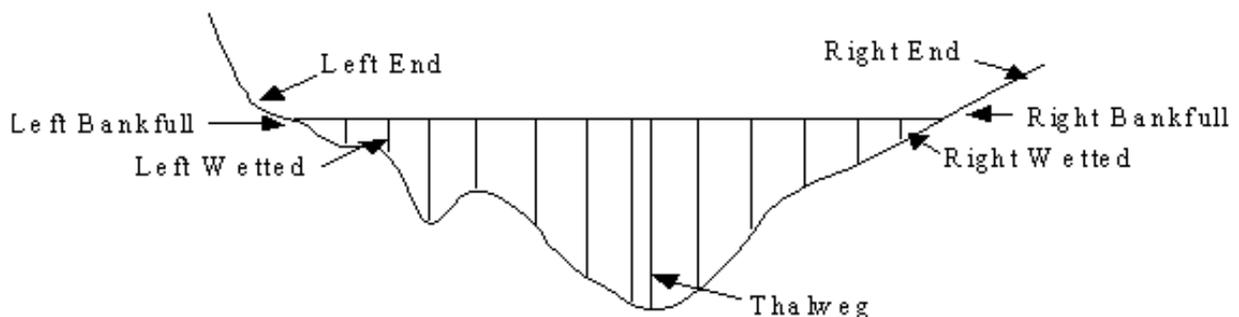

Figure 2. Example cross-sectional profile with point labeling and measurement increments.
5. In addition to the 11 incremental measurements, shots will be taken at each wetted edge and in the thalweg (Figure 2).